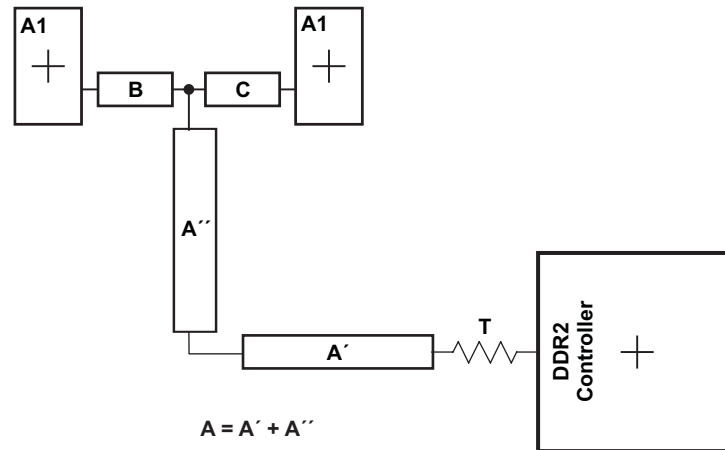

Figure 8-54. CK and ADDR_CTRL Routing and Topology
Figure 8-54 shows the topology of the routing for the CK and ADDR_CTRL net classes. The route is a balanced T as it is intended that the length of segments B and C be equal. In addition, the length of A ($A' + A''$) should be maximized.
(1) The length of segment A = $A' + A''$ as shown in Figure 8-54.
(2) Series terminator, if used, should be located closest to the device.
(3) Center-to-center spacing is allowed to fall to minimum (2w) for up to 500 mils of routed length to accommodate BGA escape and routing congestion.
(4) CACLM is the longest Manhattan distance of the CK and ADDR_CTRL net classes.